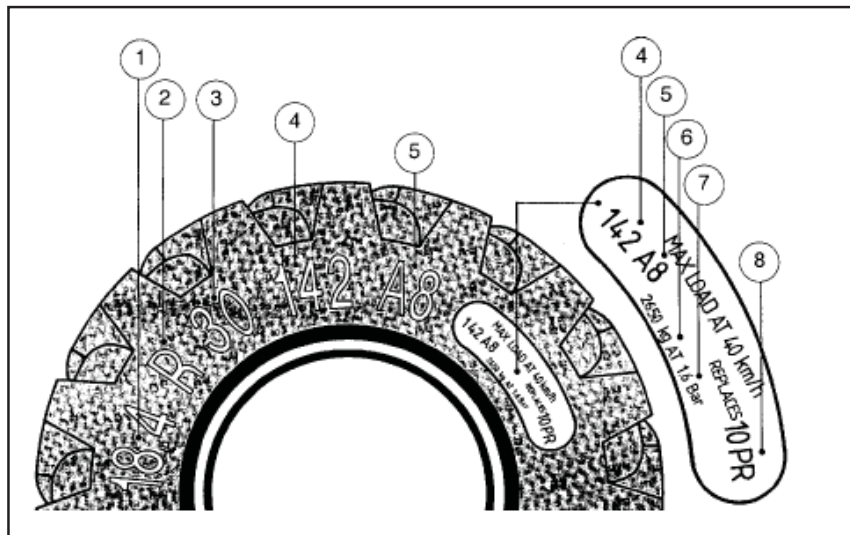

Fig.131
In addition to the load index, Speed Index (SI) is used to designate the 'Speed Category' of the tire. These two figures will indicate the maximum load that can be carried by the tire at a prescribed speed. Understanding the information on the tire side wall is important. The illustration (Fig. 131) shows a radial tire.
Key to Fig. 131.